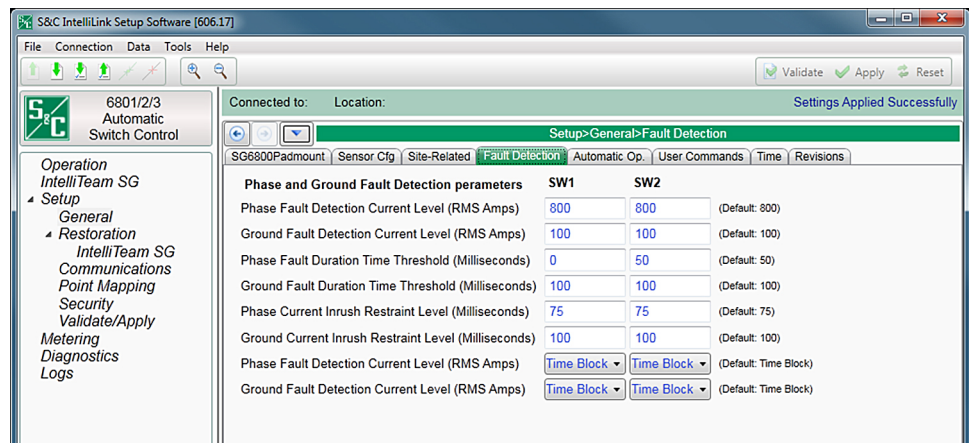

Figure 6. Setup > General > Fault Detection screen for a 6801 Switch Control.
3. Reconfigure the control to sense a fault at a value less than the present load current. See Figure 6 on page 8.